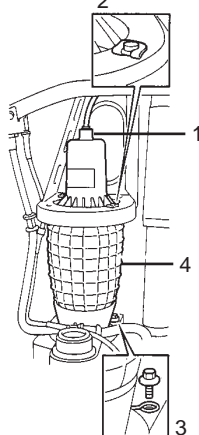

Figure 1
3. Pull the air lines from the top of the front air springs ONLY (figure 1-#1), cap the air lines, and remove the retaining clips (figure 1-#2). Disconnect the air lines from the top of each air spring by pushing the air line retainer in and pulling the line out of the top of the spring.
4. Raise the vehicle, if working on the ground use jack stands under the chassis for support, and remove the bottom retaining clips from the front air springs (figure 1-#3) and remove the front air springs (figure 1-#4).